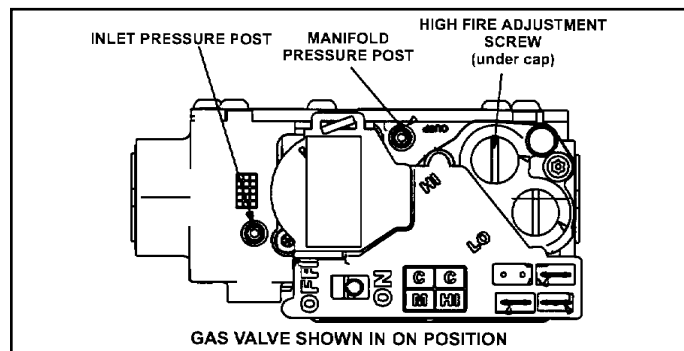

Figure 75.
6. Move gas valve switch to OFF. See Figure 75.
8. Move gas valve switch to ON. See Figure 75.
An inlet pressure post on the inlet side of the gas valve provides access to the supply pressure. See Figure 75. Back out the 3/32 Hex screw one turn, connect a piece of 5/16" tubing and connect to a manometer to measure supply pressure.
1. A manifold pressure post located on the gas valve provides access to the manifold pressure. See Figure 75. Back out the 3/32 Hex screw one turn, connect a piece of 5/16" tubing and connect to a manometer to measure supply pressure.